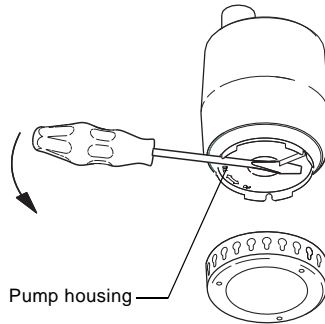

Fig. 12 How to remove the pump housing
3. Turn the pump housing 90 ° counter-clockwise using a screwdriver, see the arrow on the pump housing. Pull off the pump housing. See fig. 12.